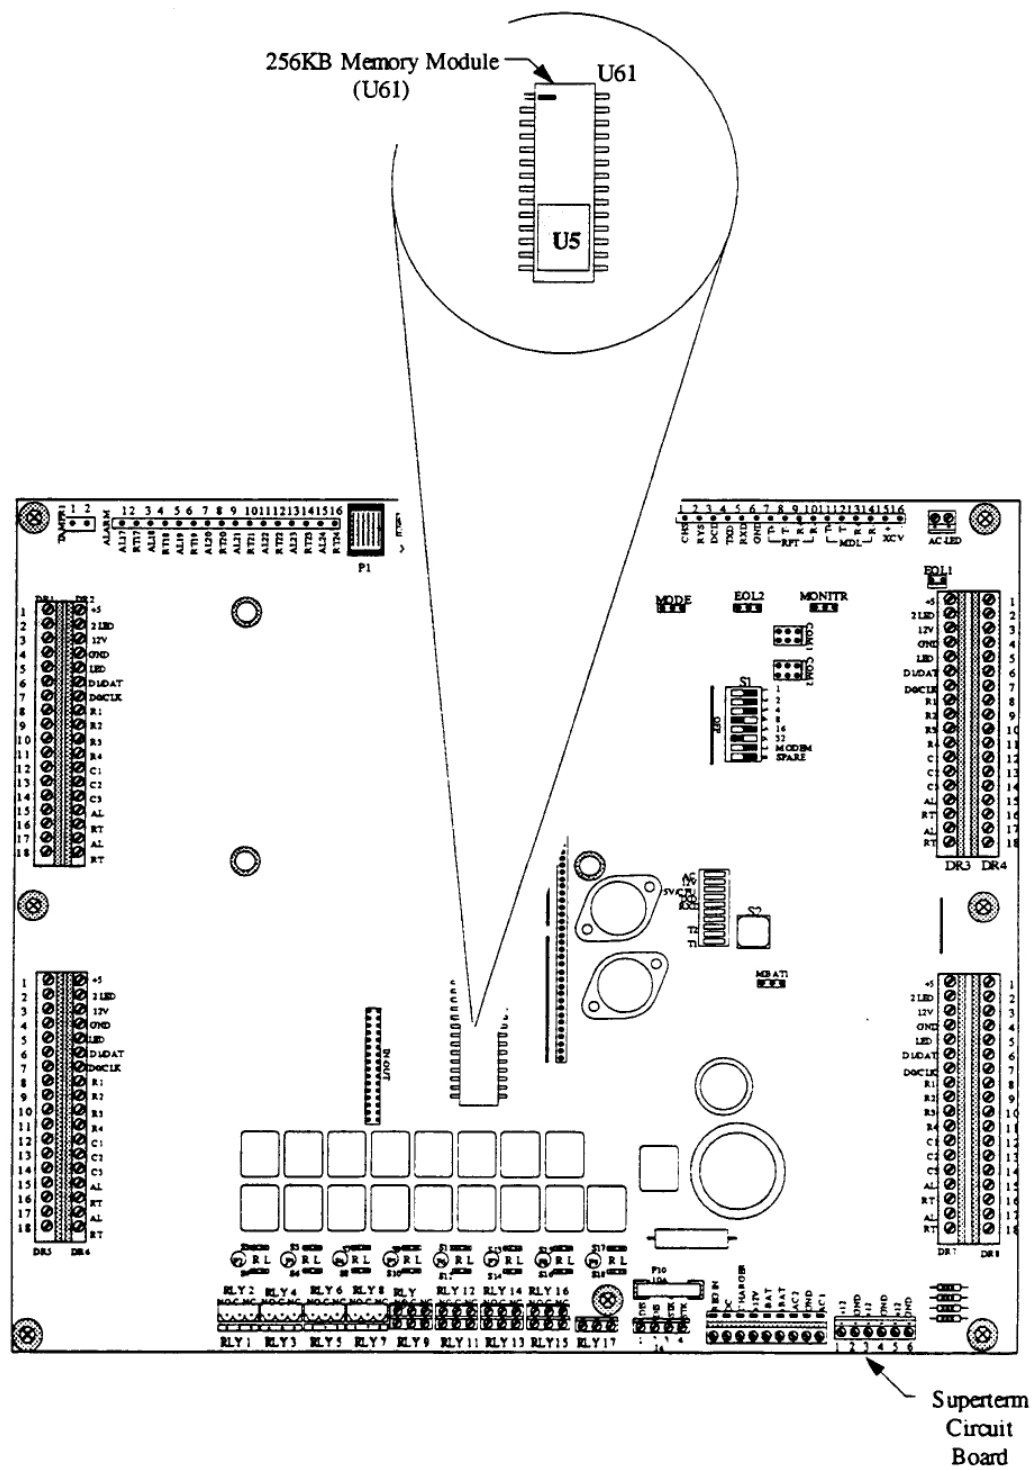

Figure 53 - 256K Memory Upgrade Installation
The 256K memory upgrade requires replacing the existing Superterm standard memory module (labeled U61 on the Superterm circuit board). The U61 memory module is located in the center of the Superterm circuit board (see Figure 53).
- 3) Using an IC extractor, carefully lift the standard memory module (U61) from it's socket on the Superterm circuit board and place in a safe location for future use (see Figure 53).